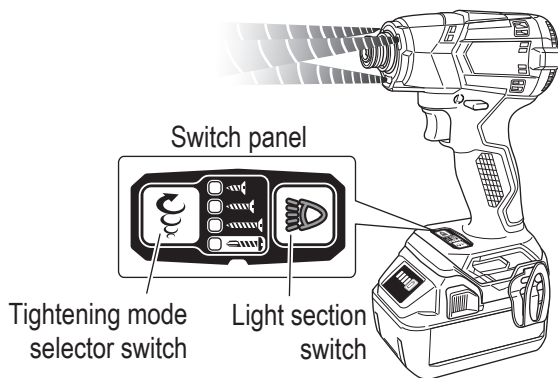

Fig. 13
5. How to switch the LED light brightness (**Fig. 13**)